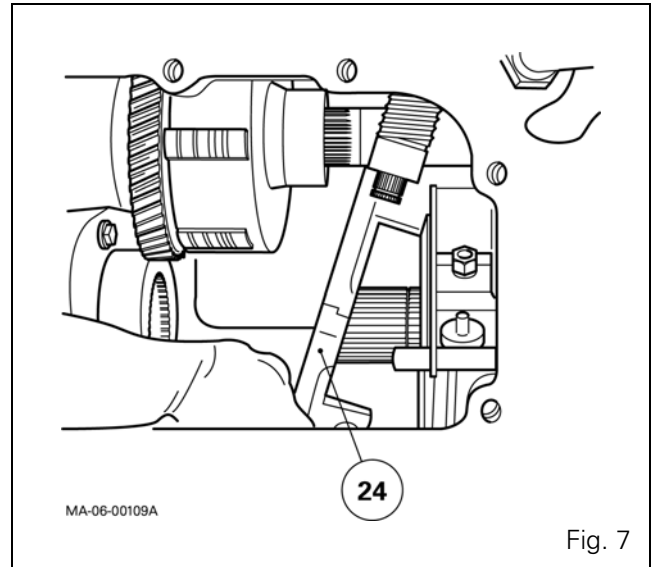

Fig. 7
15. Remove the retainer ring (33) and remove the seal (19).
16. Release the spring (17) using pliers.
17. Loosen the nut (4) to release the guide rod link (13) from the cam (14).
18. Take off circlip (15).
19. Remove the cam (14) with the finger (16).
20. Remove the closing plate (24) and the control shaft (20).
Note: Keep the mechanism (31) and the brake discs (30) rearwards. Extract the closing plate (24) (Fig. 7), tilting it to disengage it from the pin (18), finger (23) and drive pinion (26) and to release the shaft (20) from the housing.
21. Remove the spring (17) and the washer (22).
22. Remove the snap ring (21) (if necessary) on the control pin (20).
23. Remove the discs (30) and the mechanism (31).